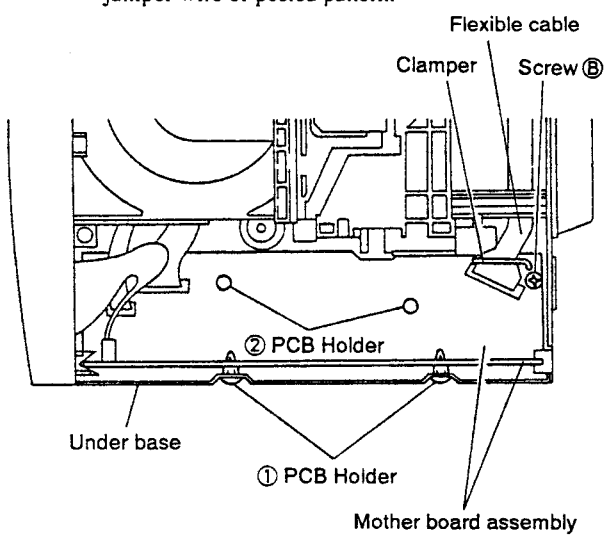

Fig. 4-2
- (5) Remove the clamber clamping the flexible cable, comes from the pick-up assembly, on the mother board assembly. (See Fig. 4-2 ④.)
- (6) Remove the screw fastening the mother board assembly. (See Fig. 4-2 ⑤.)
- (7) Remove the mother board assembly from the PCB holder ① and ②, then pull out. (See Fig. 4-2 ① and ②.) After removing the mother board assembly from the PCB holder ① and ②, slightly move the board not so as to be held by the PCB holder. Or remove the PCB holder ① from the under base (chassis).